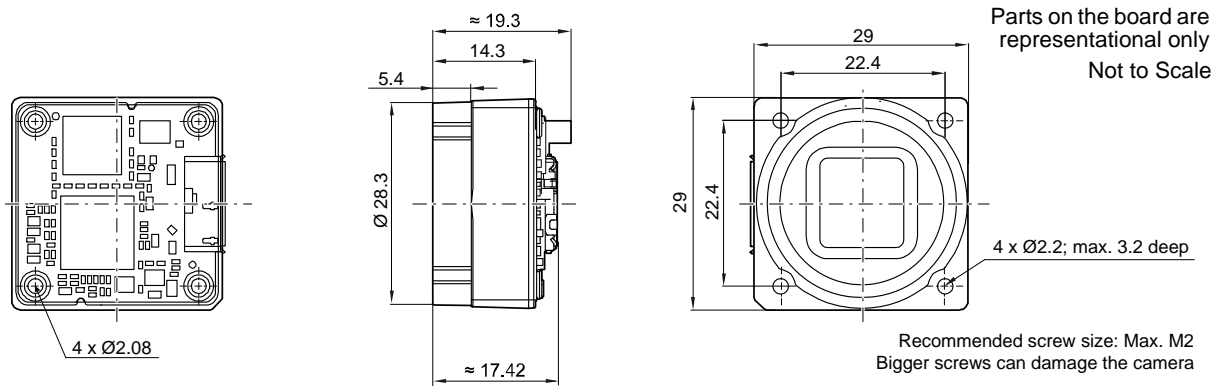

Fig. 11: Mechanical Dimensions (in mm) for Cameras with CS-mount Lens Adapter
- dart cameras equipped with a CS-mount lens adapter are as shown in Figure 11.